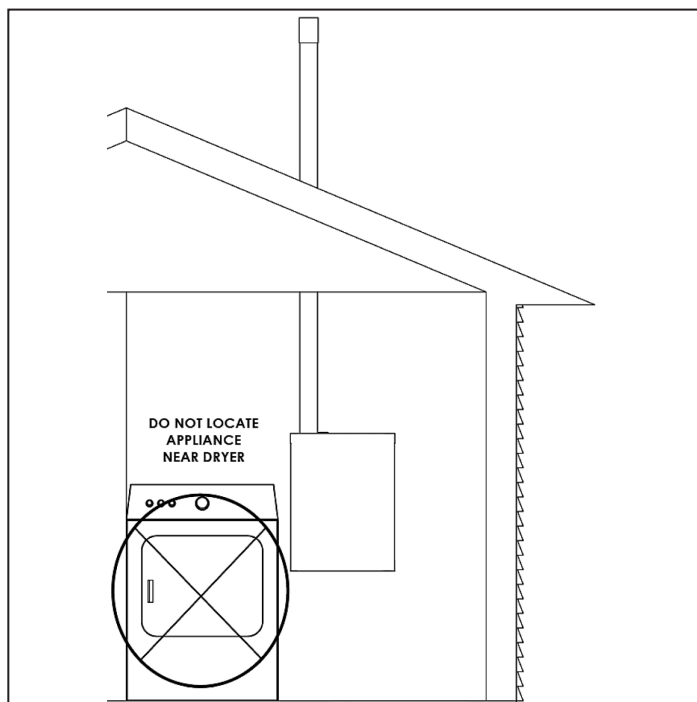

Figure 24 - Do Not Place Appliance Near Dryer
**Never obstruct the supply of combustion air to the water heater.** If the water heater is installed in areas where indoor air is contaminated (see Figure 24) it is imperative that the water heater be installed as direct vent so that all combustion air is taken directly from the outdoors into the water heater intake connection.